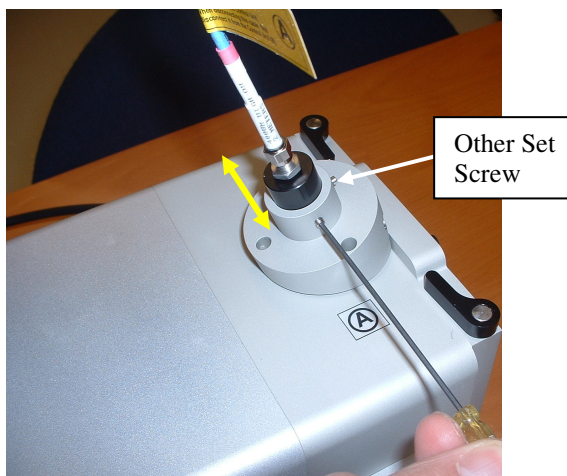

Figure 8.1 Adjusting the Laser Focusing
3. Push the fiber optic connector down about 1 or 2 mm (Fig. 8.1).